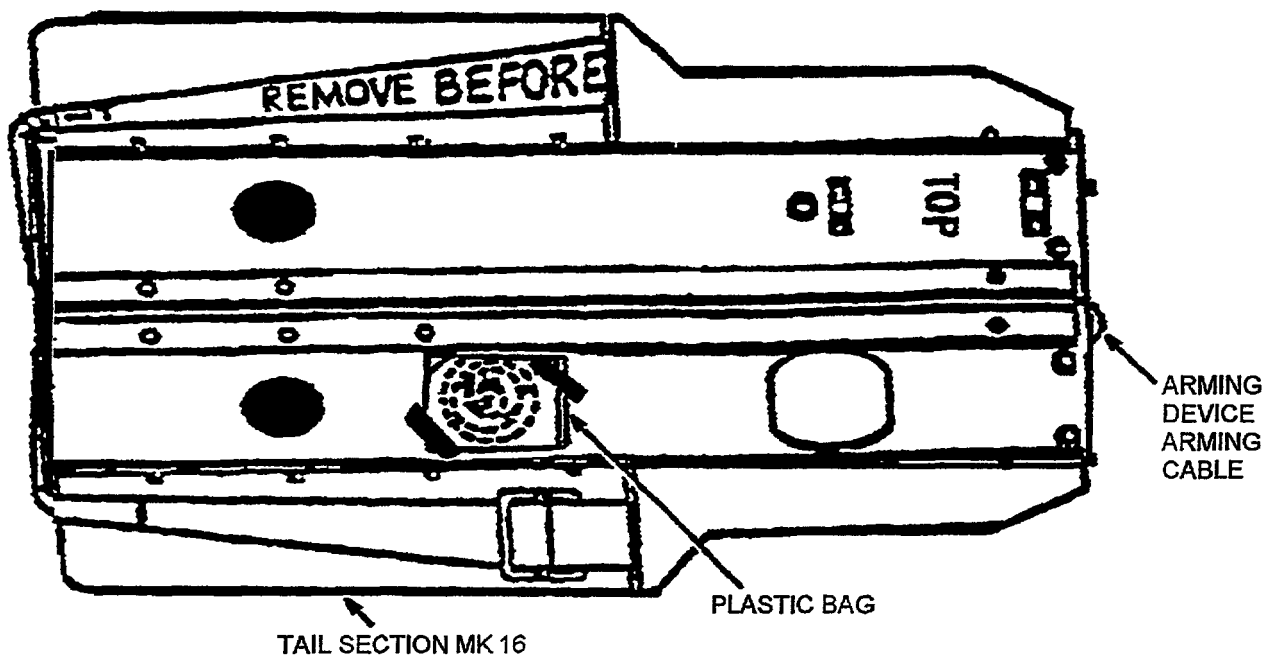

Figure 5-6A. Arming Device Arming Cable Repackaging
- c. Place the coiled cable in an 8 x 8-inch plastic bag. Using pressure-sensitive tape, secure the plastic bag to the outside wall of the tail section, as shown (Figure 5-6A).